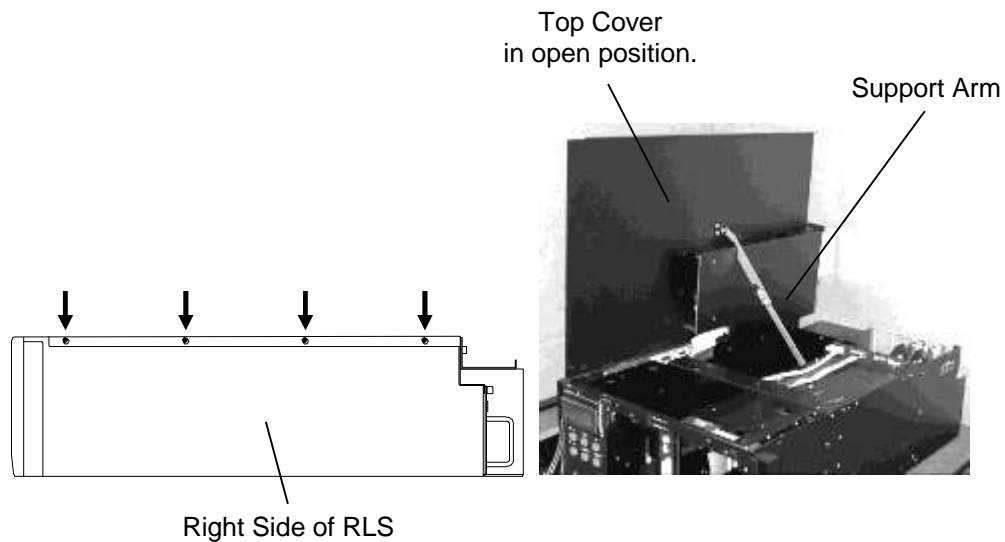

Figure 7-3 The Top Cover
3. Use a No. 2 Phillips screwdriver to remove the four screws from the right (as viewed from the front) edge of the Top Cover as shown in Figure 7-3.